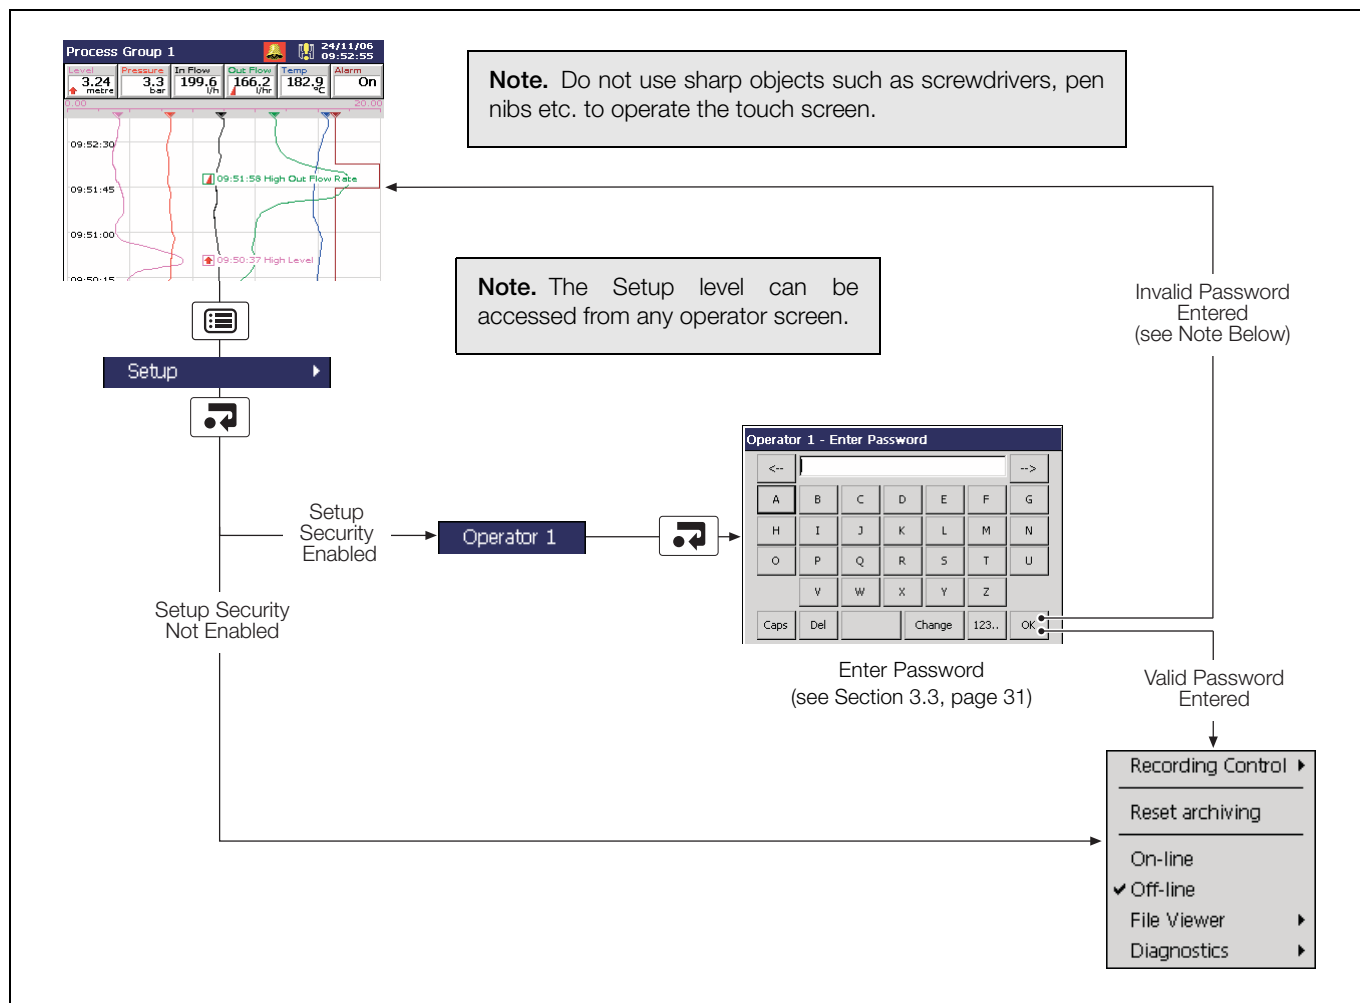

Fig. 3.2 Accessing the Setup Level – Advanced Security
- If 'Security System' is set to 'Advanced' and 'Setup Level Security' is set to 'On', access to the Setup Level is protected by a unique password for each authorized user. Refer to Fig. 3.2 to access the Setup Level.